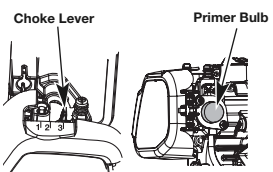

Fig. 8
3. Fully press and release the primer bulb 10 times, slowly. Some amount of fuel should be visible in the primer bulb and fuel lines (Fig. 8). If fuel can not be seen in the bulb, press and release the bulb until fuel is visible.
4. Place the choke lever in **Position 1** (Fig. 8).
6. Place the choke lever in **Position 2** (Fig. 8)
9. Continue squeezing the throttle control, move the choke lever to **Position 3** (Fig. 8) and continue warming the engine for an additional 60 seconds. The unit may be used during this time.
IF... the engine hesitates, return the choke lever to **Position 2** (Fig. 8) and continue warm-up.